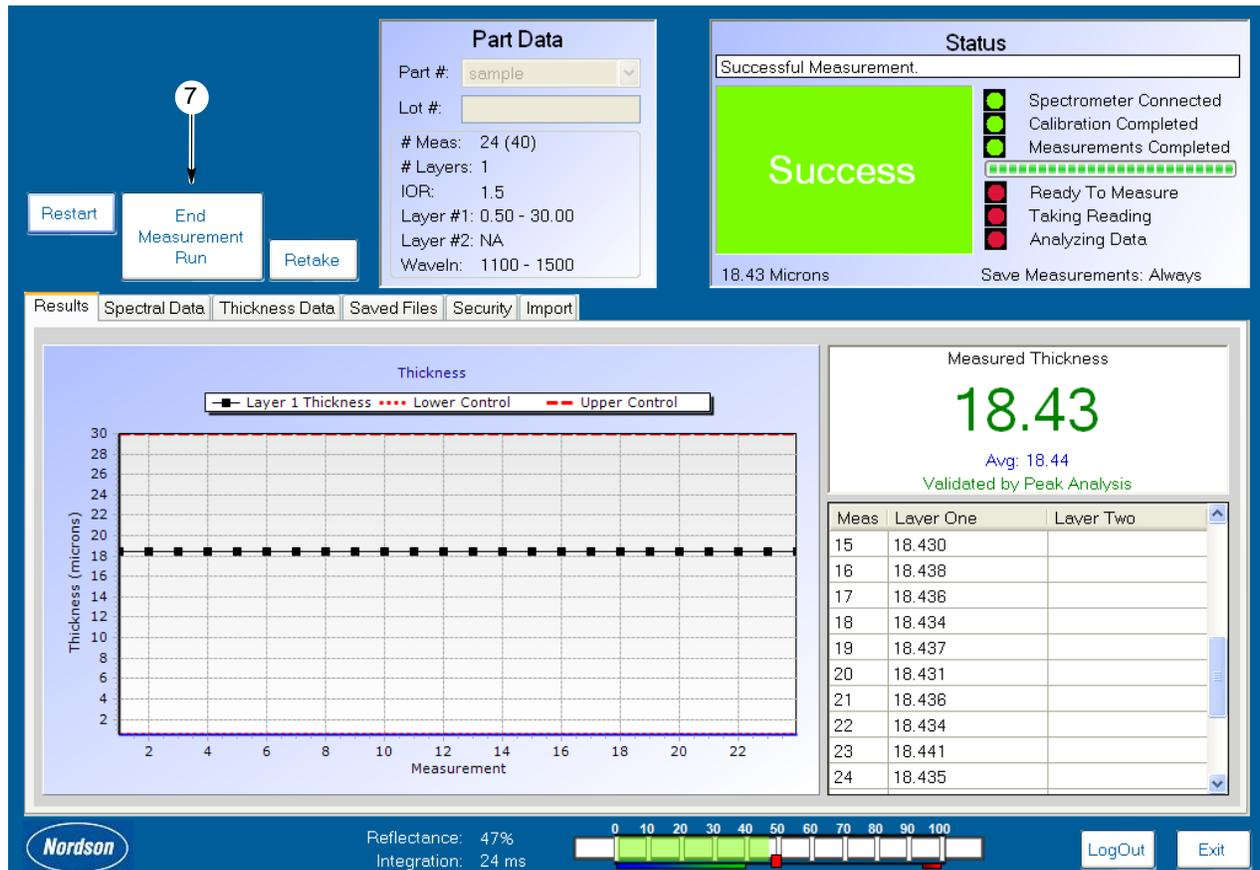

Figure 32 End Measure Run Displayed
- See Figure 32. After the measurement set has been completed, select the *End Measurement Run* button. to save the measurements. The MCS can save the data into a report file at the completion of the required measurement for a specific part.